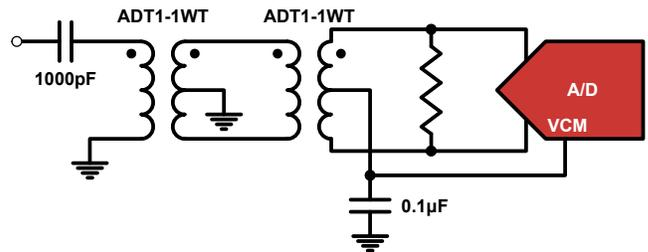

FIGURE 28. TRANSFORMER INPUT FOR GENERAL PURPOSE APPLICATIONS
used to properly bias the inputs as shown in Figures 28 through 30. An RF transformer gives the best noise and distortion performance for wideband and/or high intermediate frequency (IF) inputs. Two different transformer input schemes are shown in Figures 28 and 29.